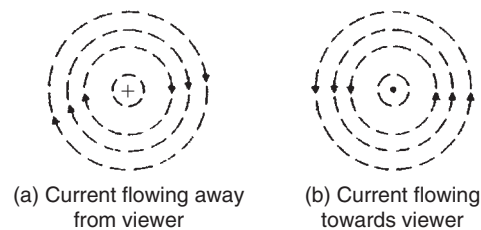
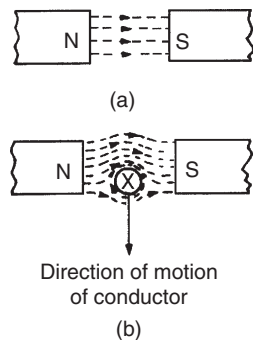

Figure 8.3
Figure 8.13
When dealing with magnetic fields formed by electric current it is usual to portray the effect as shown in Fig. 8.3. The convention adopted is:
- (i) Current flowing away from the viewer, i.e. into the paper, is indicated by $\odot$. This may be thought of as the feathered end of the shaft of an arrow. See Fig. 8.3(a).
- (ii) Current flowing towards the viewer, i.e. out of the paper, is indicated by $\ominus$. This may be thought of as the point of an arrow. See Fig. 8.3(b).
For example, with current flowing away from the viewer (Fig. 8.3(a)) a right-hand thread screw driven into the paper has to be rotated clockwise. Hence the direction of the magnetic field is clockwise.
If the current-carrying conductor shown in Fig. 8.3(a) is placed in the magnetic field shown in Fig. 8.13(a), then the two fields interact and cause a force to be exerted on the conductor as shown in Fig. 8.13(b). The field is strengthened above the conductor and weakened below, thus tending to move the conductor downwards. This is the basic principle of operation of the electric motor (see Section 8.4) and the moving-coil instrument (see Section 8.5).